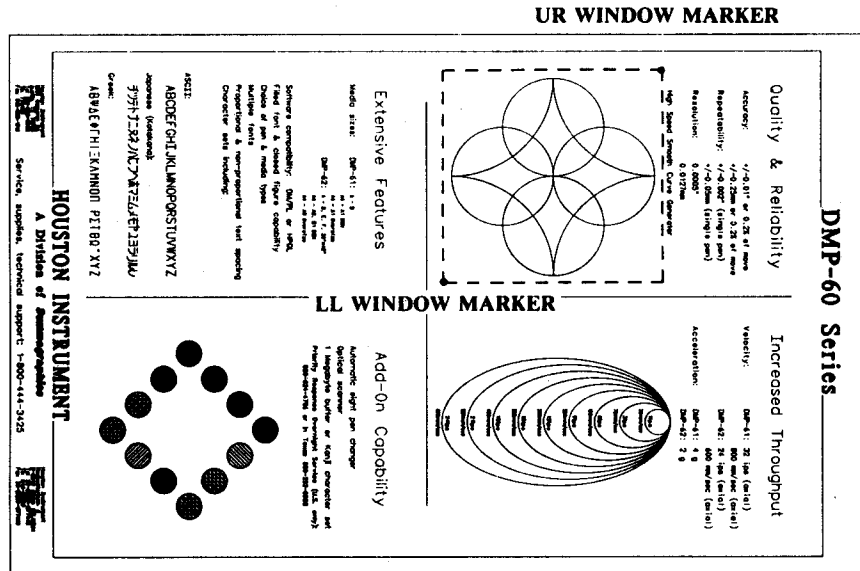

FIGURE 2-10. LOWER LEFT/UPPER RIGHT WINDOW MARKERS
3. The objective of this step is to clip the circle/arc design from the test plot with the window. Use the **MANUAL MOVEMENT KEYS** to move the pen holder to the position of the lower left window marker illustrated in Figure 2-10. After the pen holder is positioned, specify this location as the new lower left corner point of the window by pressing **ENTER** (the LED indicator will illuminate), and then **CLIP LL**. (After **CLIP LL** is pressed, the **ENTER** indicator will turn off.)
Next, use the MANUAL MOVEMENT KEYS to move the pen holder to the position of the upper right window marker illustrated in Figure 2-10. After the pen holder is positioned, specify this location as the new upper right corner point of the window by pressing ENTER (the LED indicator will illuminate), and then CLIP UR. (After CLIP UR is pressed, the ENTER indicator will turn off.) Register the corner points by pressing the LOCAL key (the LOCAL indicator will turn off).